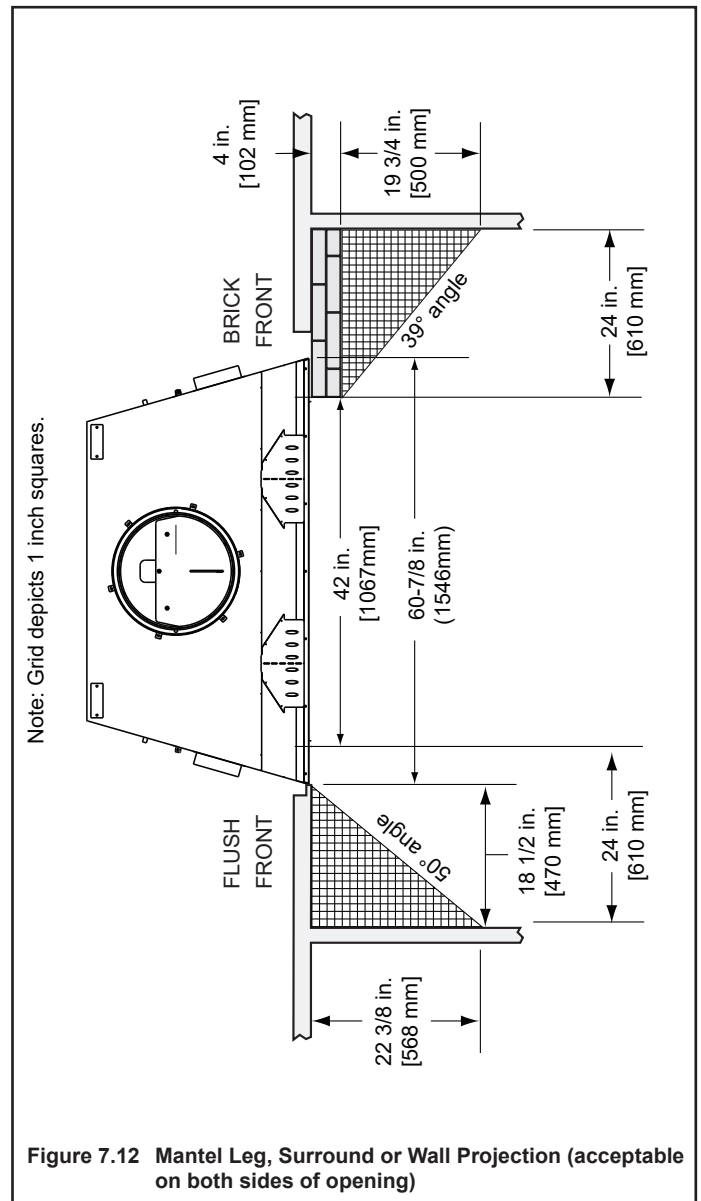

Figure 7.12 Mantel Leg, Surround or Wall Projection (acceptable on both sides of opening)
- Mantle leg, surround, stub wall, whether combustible or non-combustible, may be constructed as shown in Figure 7.12.